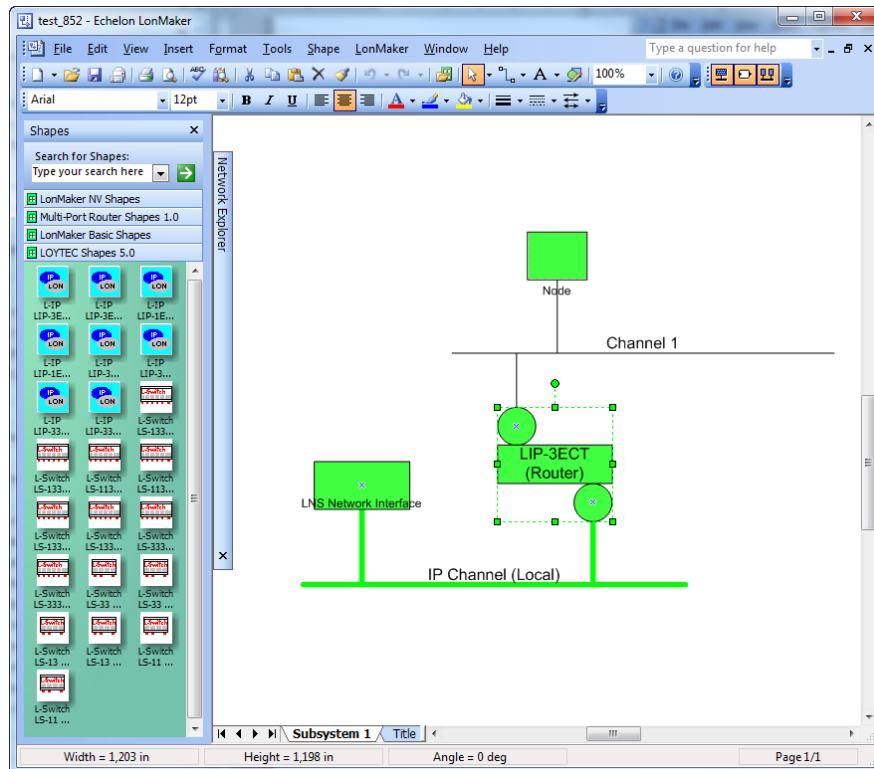

Figure 95: Drag the L-IP (Router) shape onto the drawing area and commission the device.
8. Now drag the L-IP (Router) shape from the “LoytecShapes” stencil onto the drawing area. Choose the existing channel “IP Channel” for the first router port and the existing channel “Channel 1” for the second port. Finally you must commission the new L-IP router. LonMaker can now use the L-IP as a local or remote network interface that connects directly to the Ethernet network as shown in Figure 95.